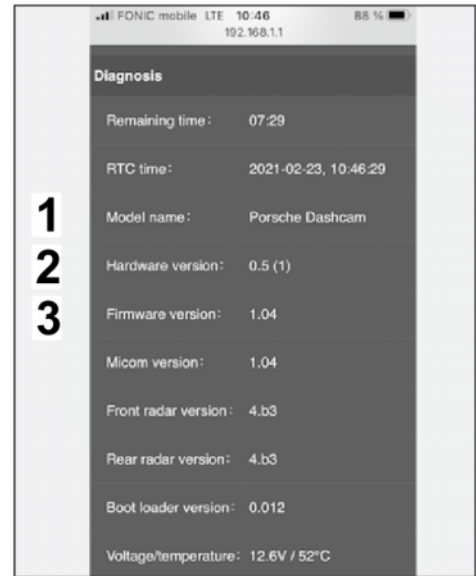

Figure 30
6.1 Information about the model name, hardware and software version, radar and more (⇒ *Figure 30*).